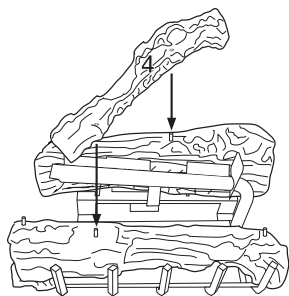

Figure 37 - Installing Log #4, Model CD42M-LS
4. Place log #4 (crossover log) onto pins from both logs #2 and #3 (see Figure 37).